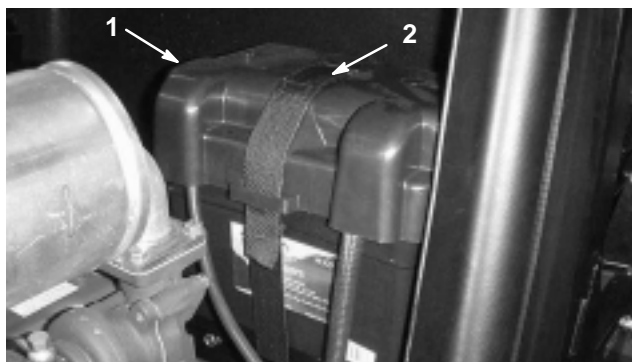

Figure 52
2. Remove the battery strap and cover (Fig. 52).